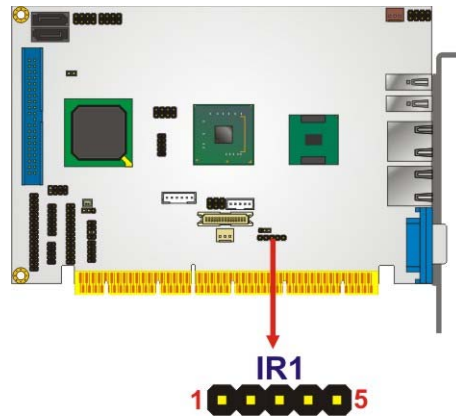

Figure 3-14: Infrared Connector Pinout Locations
- CN Location:** See Figure 3-14